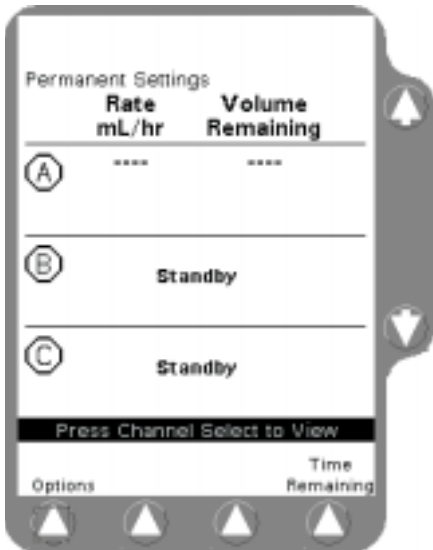

Figure 3-13 Main Display Screen
1. When the Main Display screen is shown, identify the desired pump channel and press the corresponding **Channel Select** key. (Figure 3-13).